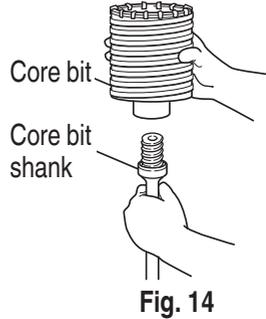

Fig. 14
- (1) Mount the core bit to the core bit shank (Fig. 14).